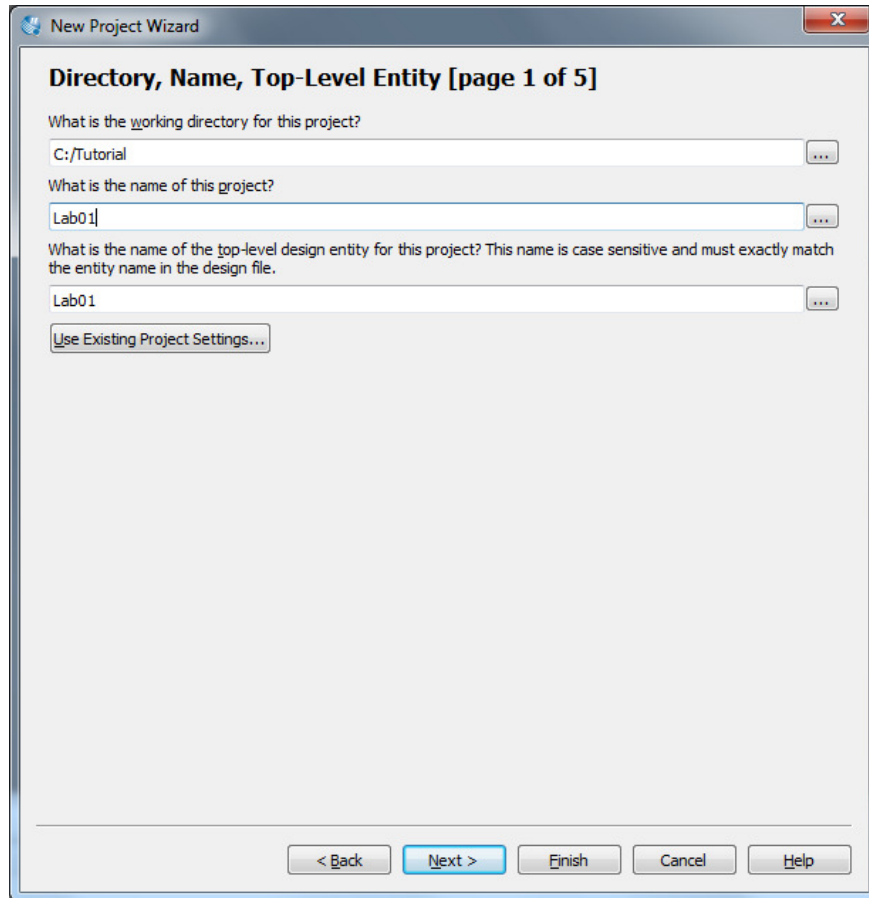

Fig. 3: 'New Project Wizard' window
1. Open the Quartus II Design software. Create a new project by choosing File > New Project Wizard and then click 'Next'. Click on the Browse button to select the 'working directory'. Create a new folder (preferably in C: or in C:/altera folder) and name it 'Tuto'. Click 'Select Folder' and then select a name for your project (such as 'Lab 01' as shown in Fig. 3).